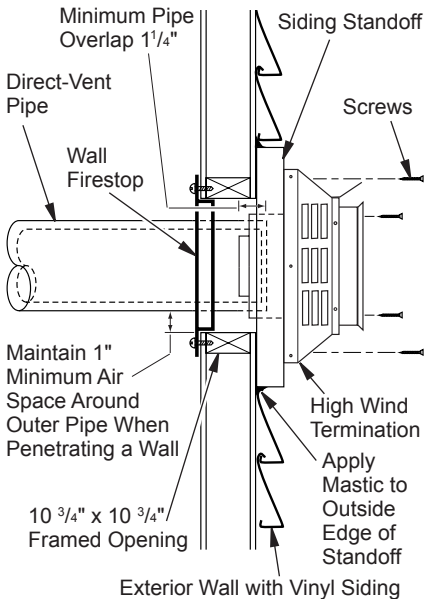

Figure 13 - Typical Horizontal Termination Cap Mounting with Additional Siding Standoff Installed
- Carefully move fireplace, with vent assembly attached, toward wall and insert vent pipe into horizontal termination. The pipe overlap should be a minimum of 1 1/4" (see Figure 13, page 12).
- Combustible Exterior Wall Only:** Slide wall firestop against interior wall surface and attach with screws provided. See Figure 13, page 12, for horizontal termination details.